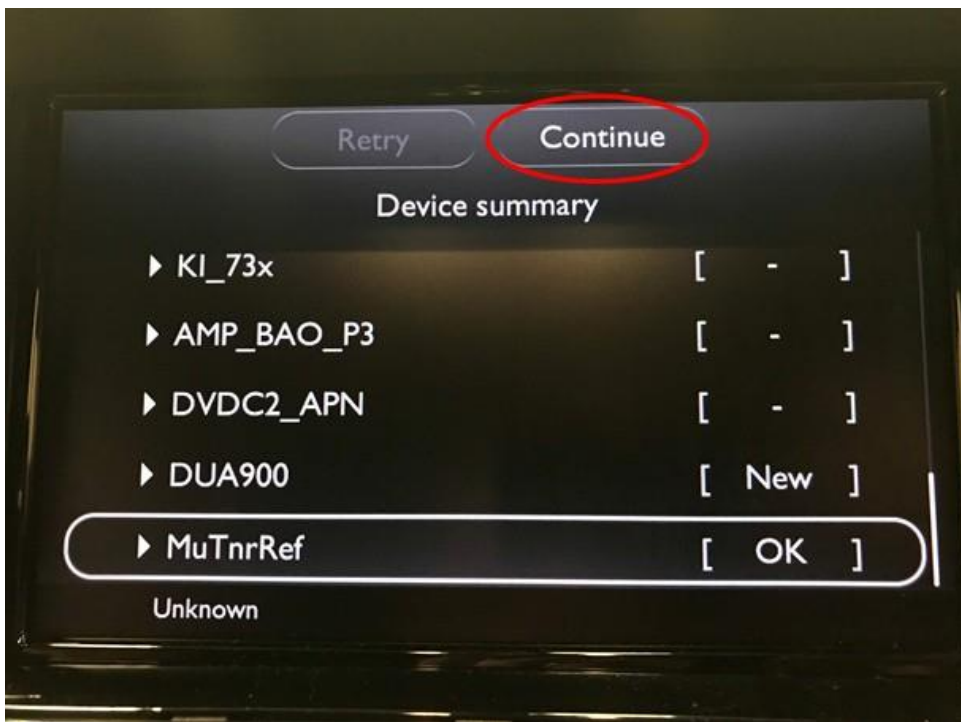

Figure 11
10. When the components have been updated, the *Device summary* screen is shown. All updated components should be marked [OK] or [-] (Figure 11)
- If any components are marked [NOK] press Try again (A)
- If all components are marked [OK] or [-], then press Continue (B)